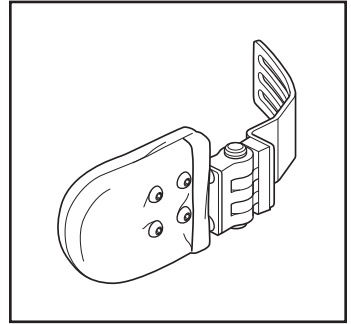

Fig. 2
1. Drill four (4) $\frac{1}{4}$ -20 x .375 screws through the cover and into the pre-drilled holes in the pad. *Fig. 2*